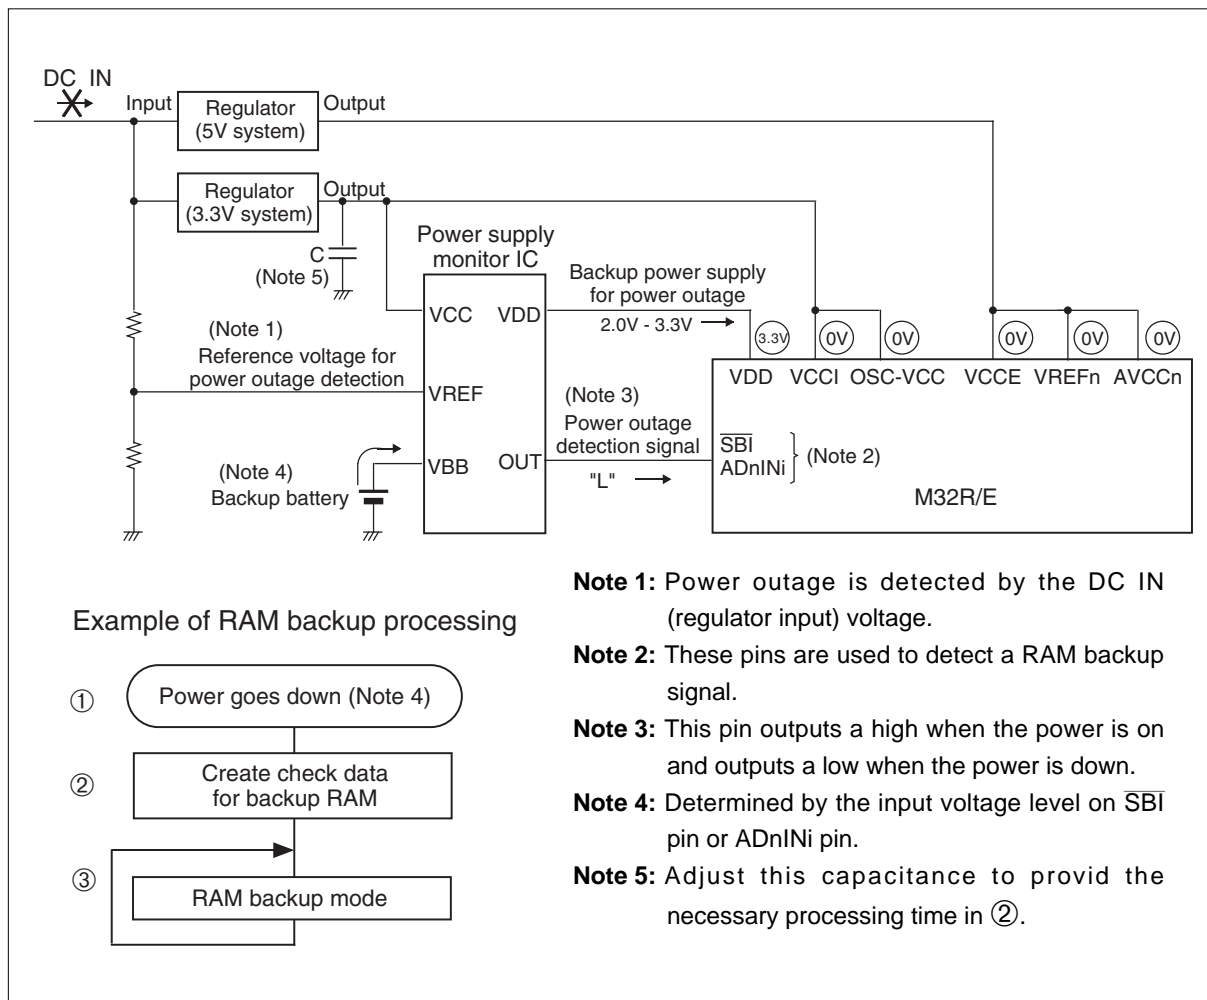

Figure 17.2.3 RAM Backup State at Power Outage
Shown in Figure 17.2.3 is the power outage RAM backup state of the M32R/E. When the power supply goes down, the power supply monitor IC starts feeding current from the backup battery to the M32R/E. Also, the power supply monitor IC's power outage detection pin outputs a low, causing the  $\overline{\text{SBI}}$  pin or ADnINi pin input to go low, which generates a RAM backup signal (① in Figure 17.2.3). Whether the power is down or not must be determined with respect to the DC IN (regulator input) voltage in order to allow for a software processing time at power outage.
- (1) Create check data to verify after returning from RAM backup to normal mode whether the RAM data has been retained normally (② in Figure 17.2.3).
When the power supply to VCC goes down after settings in (1), the voltage applied to the VDD pin becomes 2.0-3.3 V and voltages applied to all other pins drop to 0 V, and the M32R/E thereby enters RAM backup mode (③ in Figure 17.2.3).
Due to settings in (1) to (3), the voltage applied to the VDD pin becomes  $3.3\text{ V} \pm 10\%$  and voltages applied to all other pins drop to 0 V, thus placing the M32R/E in RAM backup mode (④ in Figure 17.2.3).